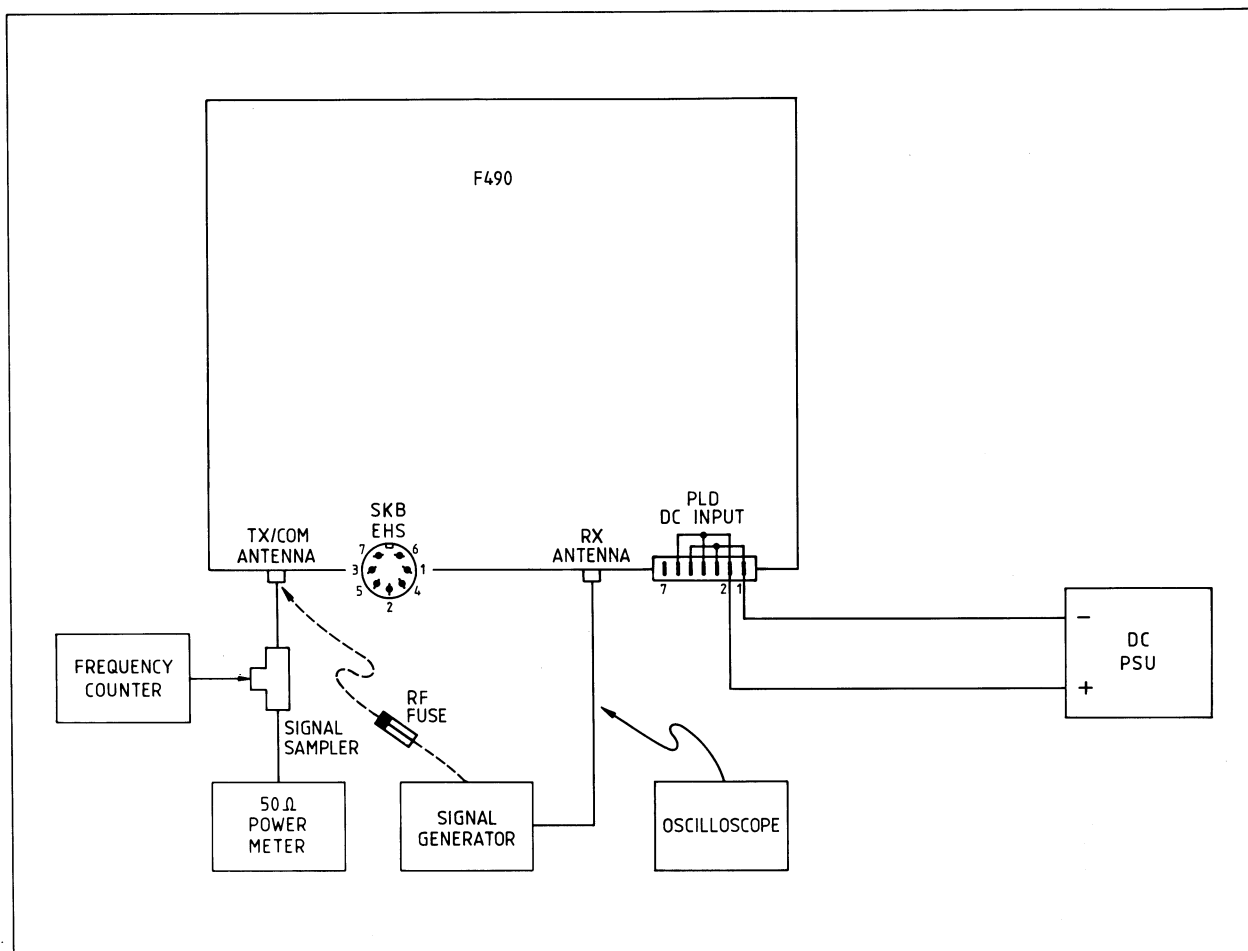

Fig 2.1 Serviceability Test Circuit
With reference to Fig 2.1 connect the PSU to PLD (DC INPUT) on the connector panel
- (a) Connect the signal generator to the appropriate antenna socket as shown in Fig 2.1; modulate the output at 1 kHz to 60% of peak deviation at a level of 1 mV.
1. Connect the signal generator to the appropriate antenna socket as shown in Fig 2.1. Set the signal generator output to channel frequency $\pm 10\text{Hz}$ unmodulated at a level of 1mV.